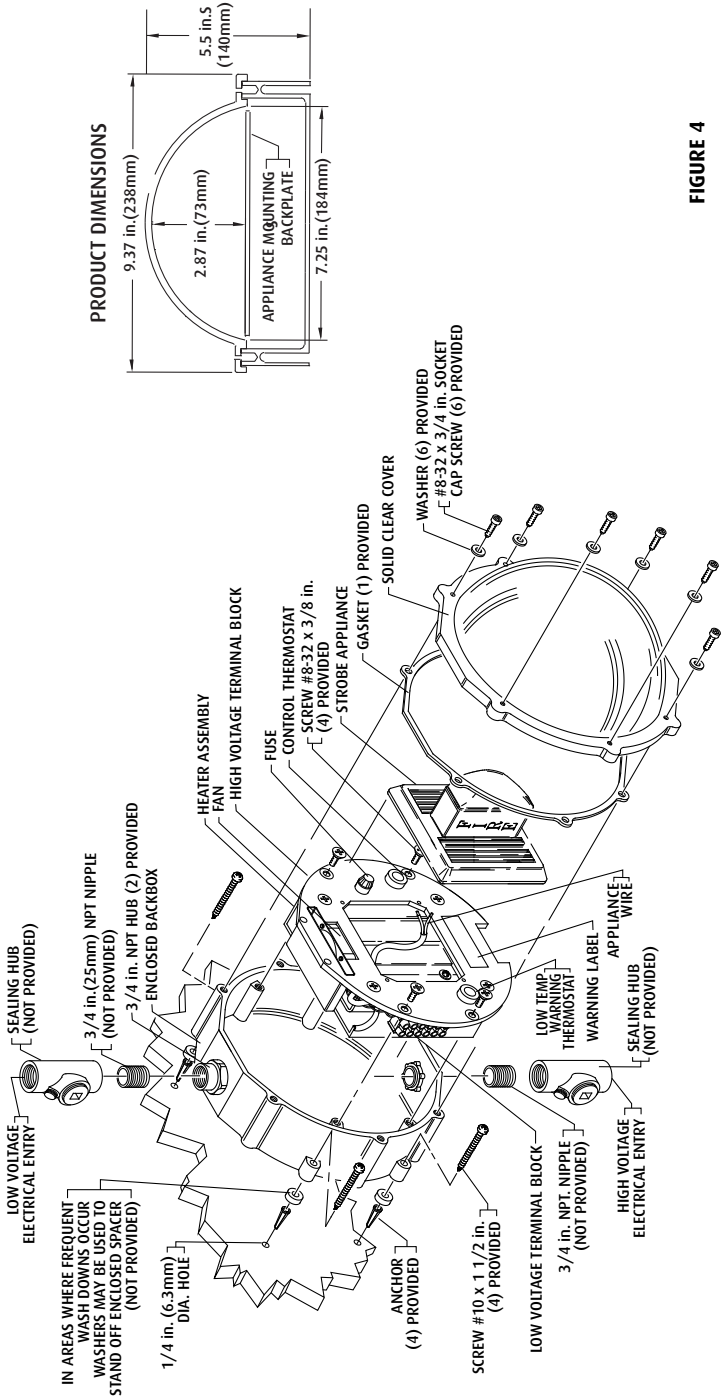

FIGURE 4
- 12.** Install cover and gasket with (6) #8-32 x 3/4" socket cap screws and (6) flat washers as shown in Fig. 4.